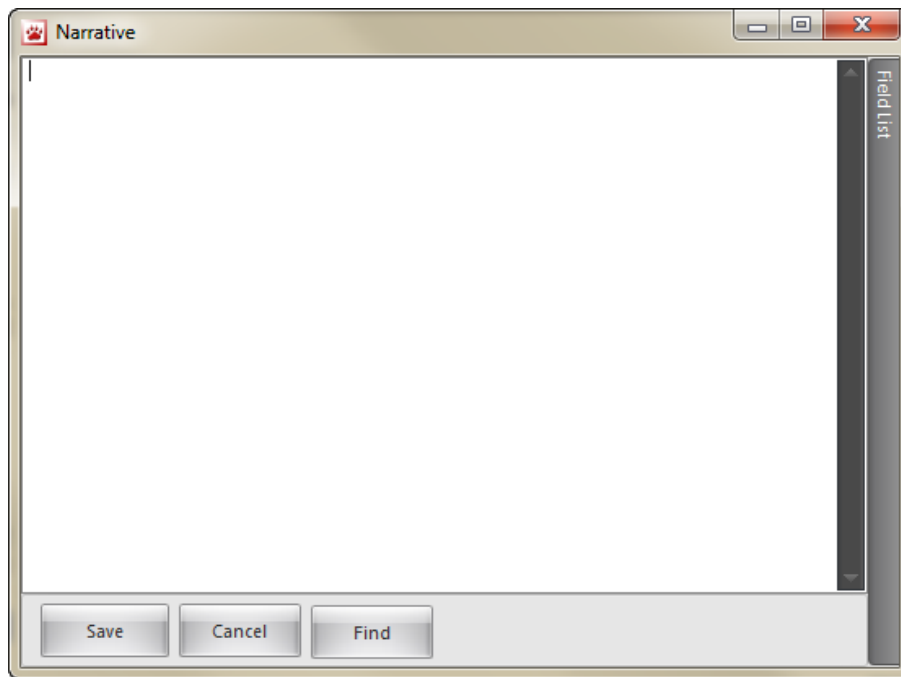

Figure 52. Narrative Dialog Box
2. Enter text directly in the Narrative databar box, or click **Edit** to open the Narrative box (shown in Figure 52) and enter the data there.